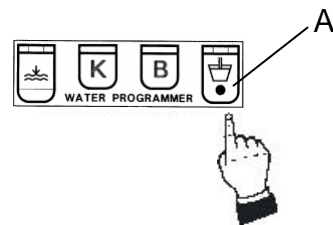

Figure 1
7. Operate the head using the buttons or lever controls (if the machine is mechanical). (See Figs. 1, 2, 3, 4) (page 12).
MACHINES WITH AUTOMATIC HOT WATER DISPENSERS: (Fig. 1).